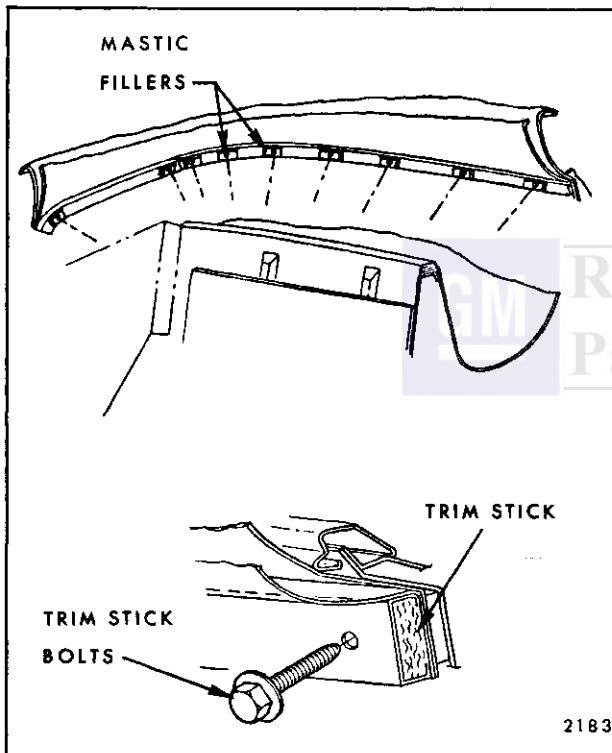

Fig. 13-50—Checking Trim Stick Fillers
- Inspect mastic type trim stick fillers at body below pinchweld for sufficient seal at bolt holes (Fig. 13-50).